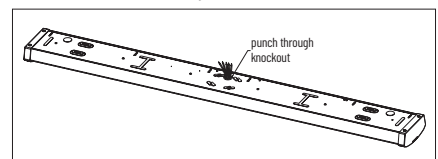

Figure 6
- e. Use a screwdriver to remove out one of the knockouts and take out the cables through the knockout from the housing. (Figure 6)